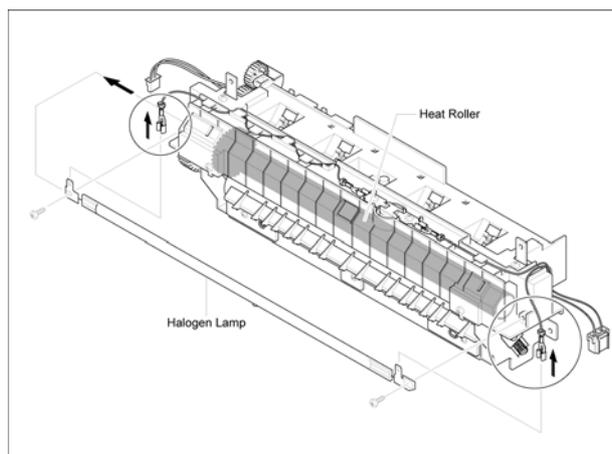

Figure 4
5. Remove 2 screws. Disconnect the Fuser Harness and the Fuser Joint Harness from the Halogen Lamp. Remove the Halogen Lamp by sliding it to the left, Figure 4.